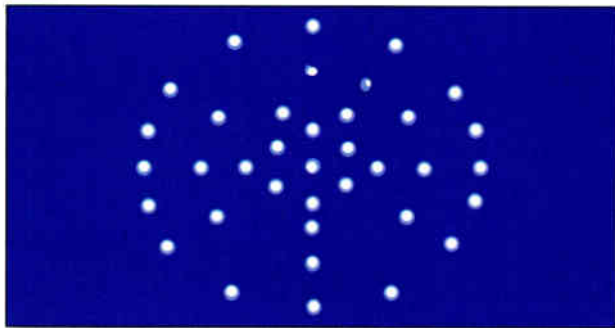

Figure 3. Spherical aberration (exaggerated for visibility) at the lens output
- *Spherical aberration.* Spherical aberration relates to an aberration common to all lenses made up of spherical elements. (See Figure 3.) It manifests itself as differential focusing, with those rays (emanating from a physical point